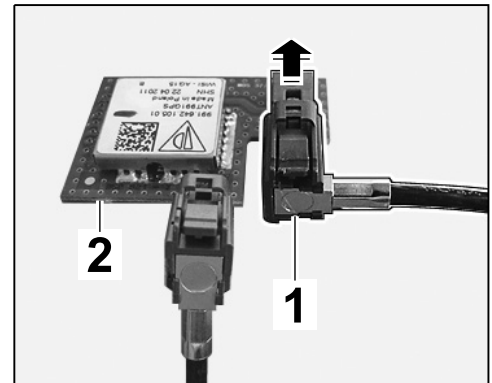

Figure 7
2.2.1 Attach angled antenna connector ⇒ *Figure 7 -1-* to the GPS antenna ⇒ *Figure 7 -2-* until the antenna connector engages securely.